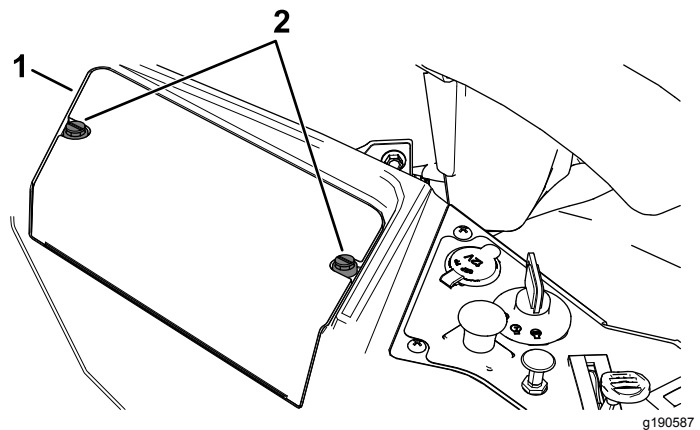

Figure 46
3. Loosen the 2 fasteners on the battery cover counterclockwise 1/4 turn, and remove the battery cover (Figure 46).
6. Install the battery cover by pushing down and tightening the 2 fasteners clockwise (Figure 46).